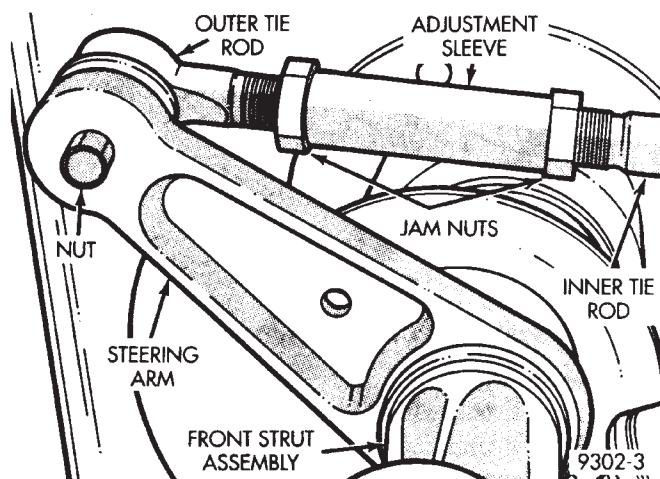

Fig. 1 Outer Tie Rod Jam Nut And Adjustment Sleeve
(2) Remove tire and wheel assembly.
(3) Loosen the outer tie rod to adjustment sleeve jam nut (Fig. 1).
The Saginaw tilt steering column (Fig. 1) has been designed to be serviced as an assembly; less wiring, switches, shrouds, shifters, locksystem, steering wheel, etc. Also, most steering column components can be serviced without removing the steering column from the vehicle.